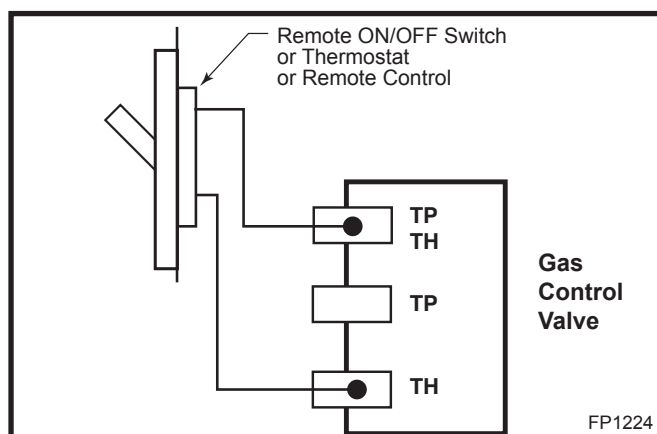

Fig. 8 Remote switch wiring diagram.
3. Attach the wire to an ON/OFF switch and install the switch into the receptacle box. (Fig. 8)